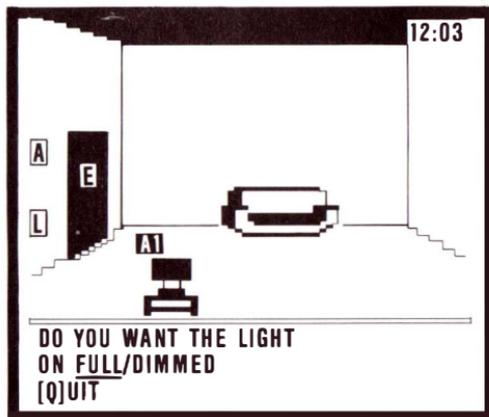

FIGURE 26
- If you choose **ON** and the symbol you chose represents a light, you will be asked **DO YOU WANT THE LIGHT ON FULL/DIMMED**. See Figure 26.